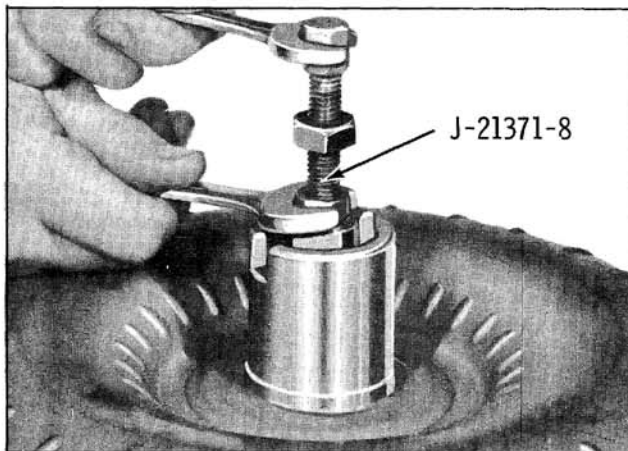

Fig. 6-548 Installing Tool J-21371-8
- a. Install available Tool J-21371-8 and tighten brass nut. (Fig. 6-548)